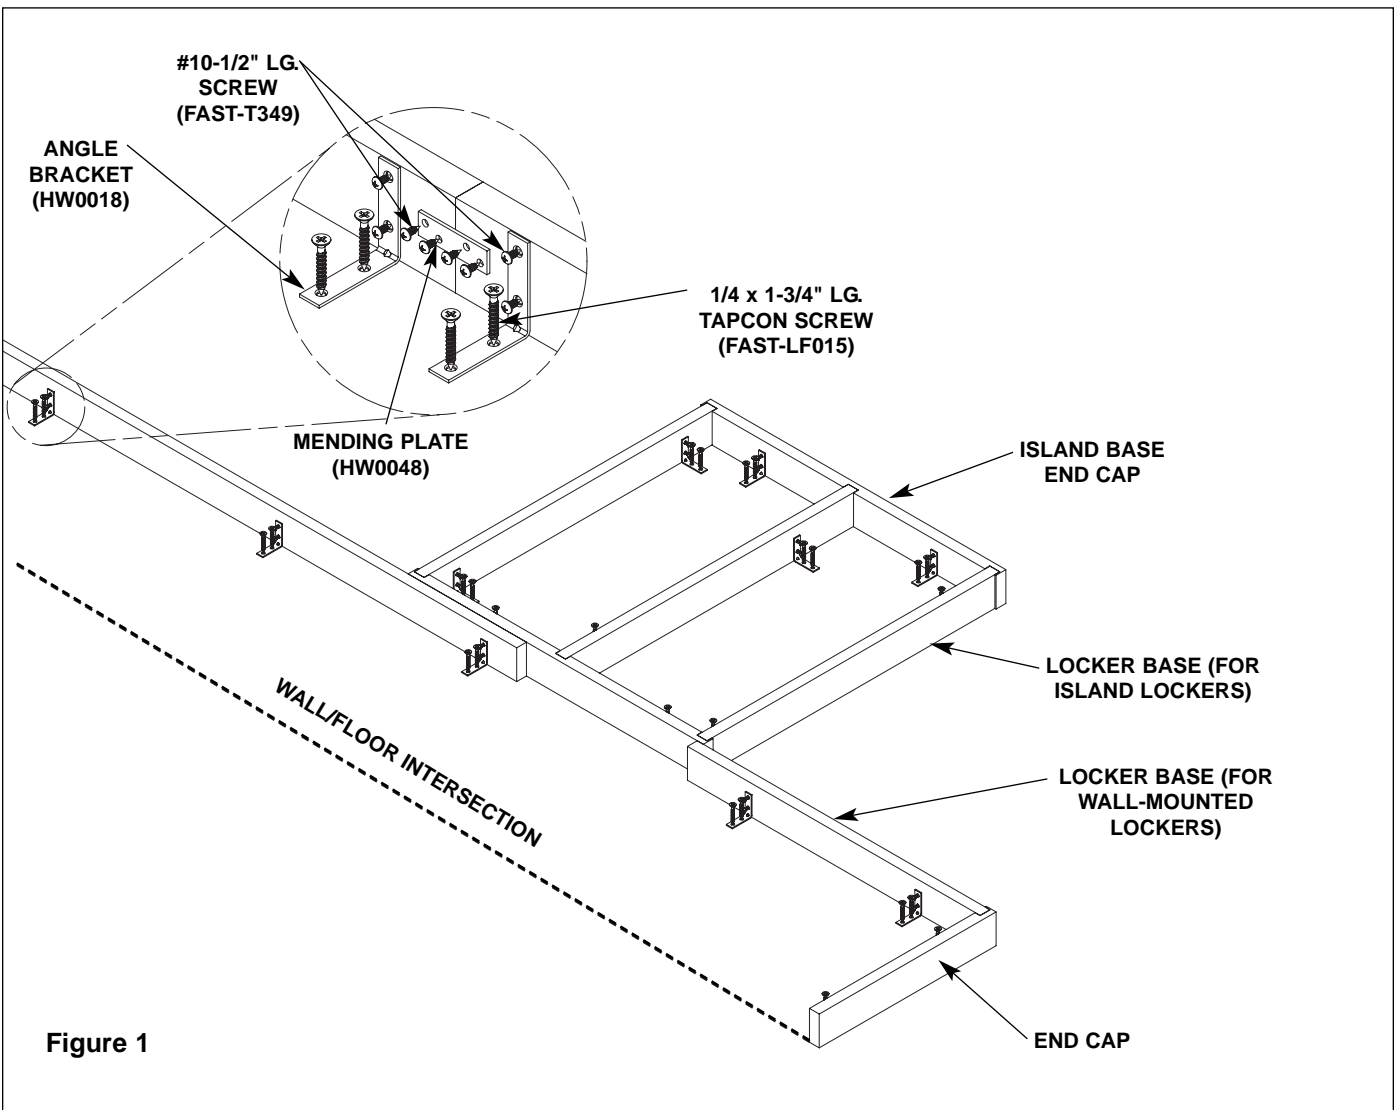

Figure 1
2. Position the base sections per submittal layout. The ends of the base sections fit into the slots in the end caps (see Figure 1). Square and plumb the sections and end caps using shims as required. If shims are used, place them under the mounting brackets perpendicular to the bracket.
3. For longer locker runs, the base sections may need to be connected together. Use the mending plate and #10 x 1/2" screws provided to connect pieces (see inset, Figure 1).
4. Using the applicable mounting hardware supplied, anchor the base sections to the floor. Use a 3/16" masonry drill bit for 1/4 x 1-3/4" Tapcon screws (see inset, Figure 1).